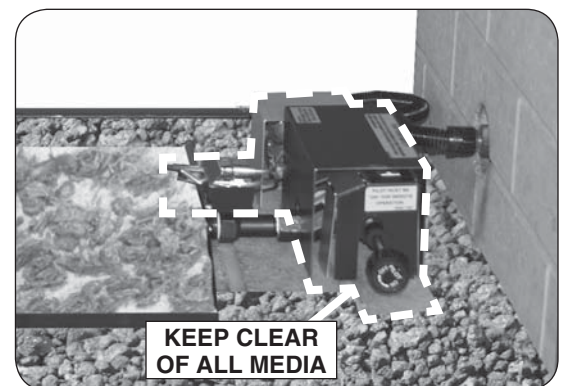

Fig. 19-4 Keep pilot, valve, & shield(s) clear
KEEP LAVA GRANULES/COALS, SAND/VERMICULITE, EMBERS, AND ALL FOREIGN OBJECTS AWAY FROM THE PILOT ASSEMBLY, VALVE ASSEMBLY, AND HEAT SHIELD(S) DURING MEDIA PLACEMENT AND AT ALL TIMES. SEE FIG. 19-4.